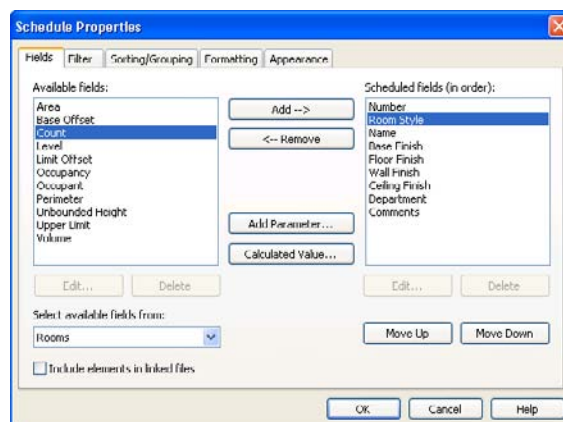

Figure 11.13
16. In the schedule, locate room number 104, Instruction. In the Room Style cell for room 104, click in the cell (Figure 11.13), and select Instruction.